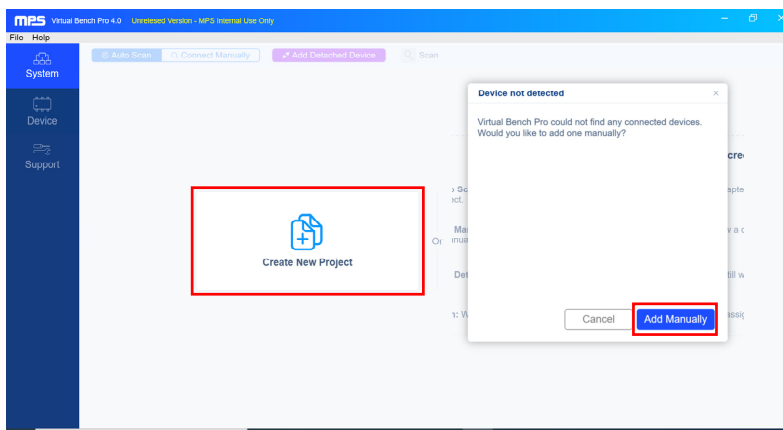

Figure 4: Create New Project in Virtual Bench
10. Select “Create New Project” and “Add Manually” (see Figure 4).